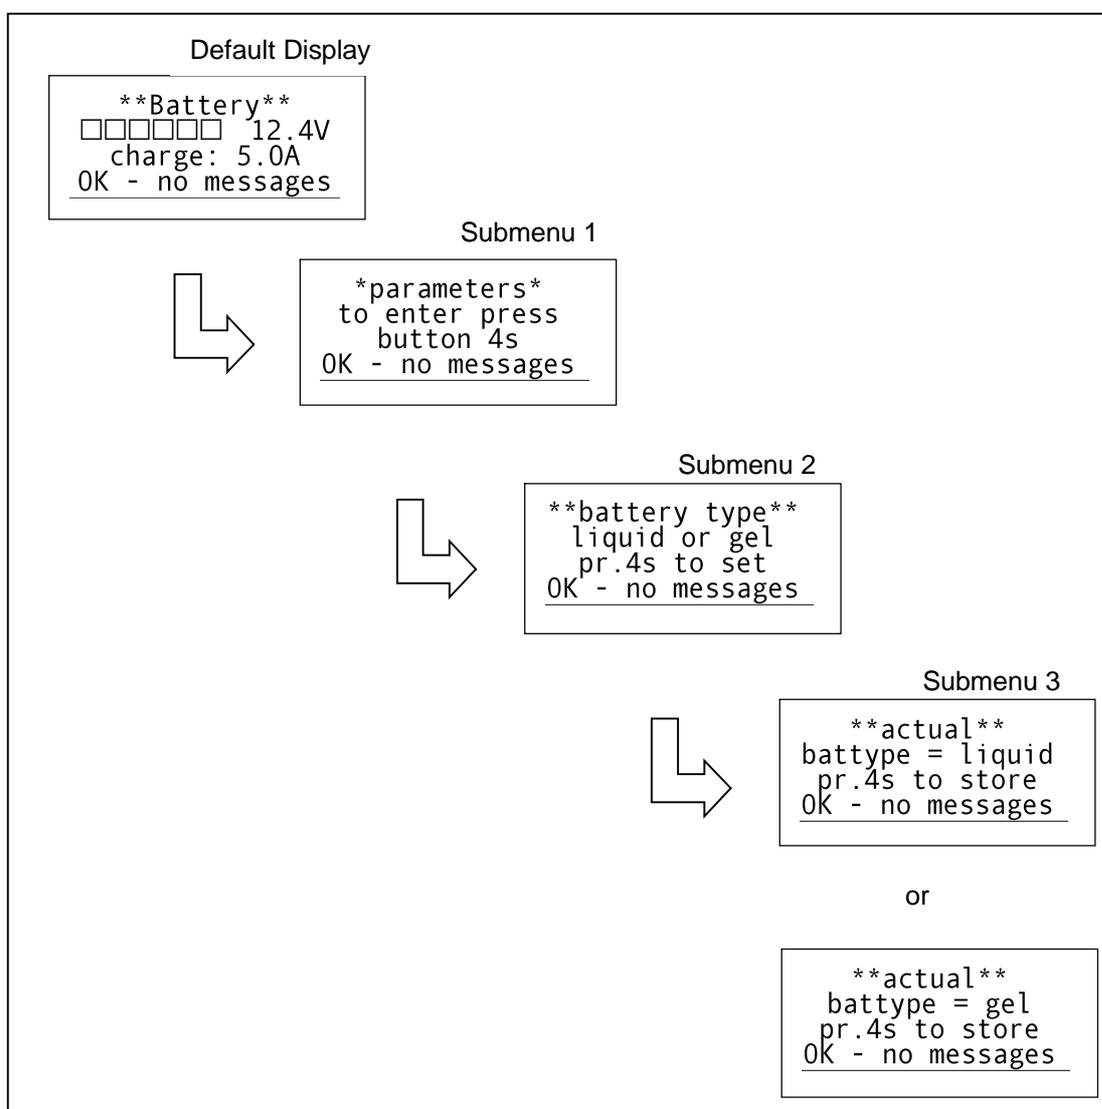

Fig. 4
2. Adjusting the Type of Battery (Fig. 4)